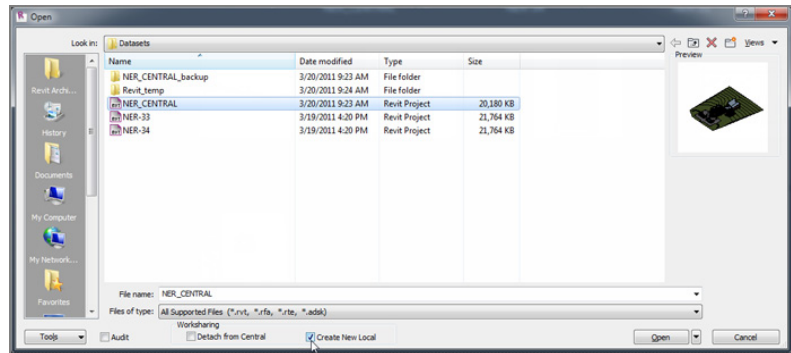

FIGURE 22.11: Creating a new local model
5. At the bottom of the dialog is a Create New Local check box. Make sure it's selected (see Figure 22.11).